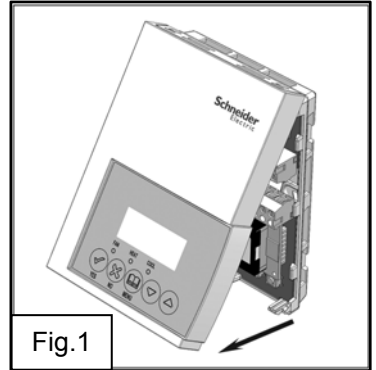

Fig.1
- Open unit by pulling on the bottom side of Fan Coil Terminal Equipment Controller (Fig. 1).